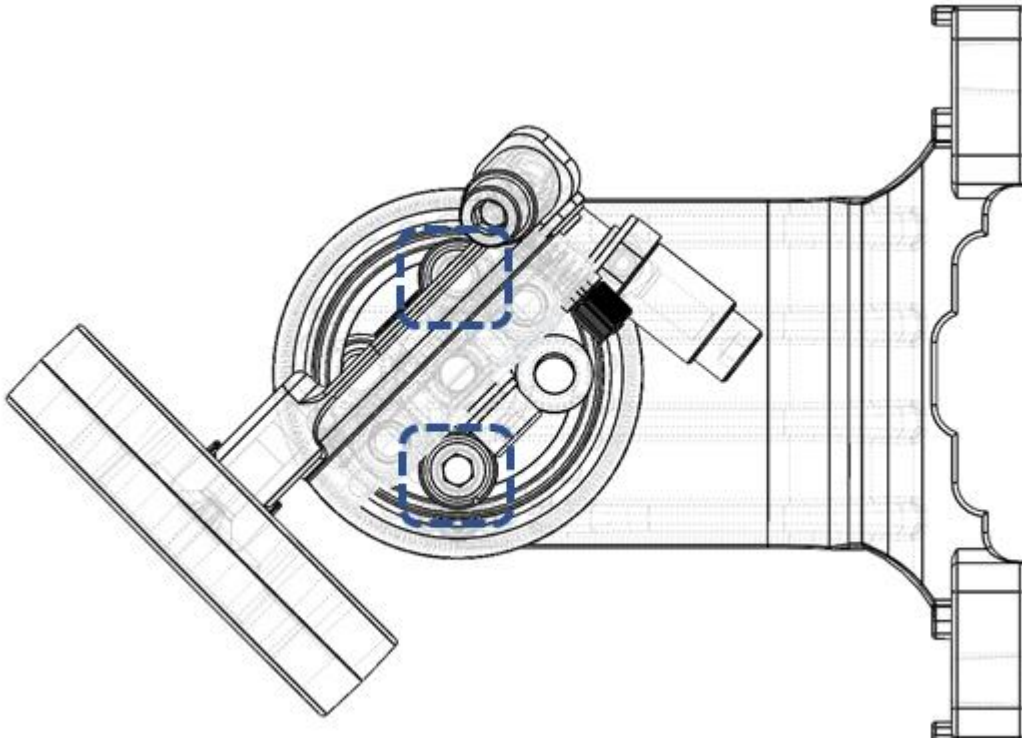
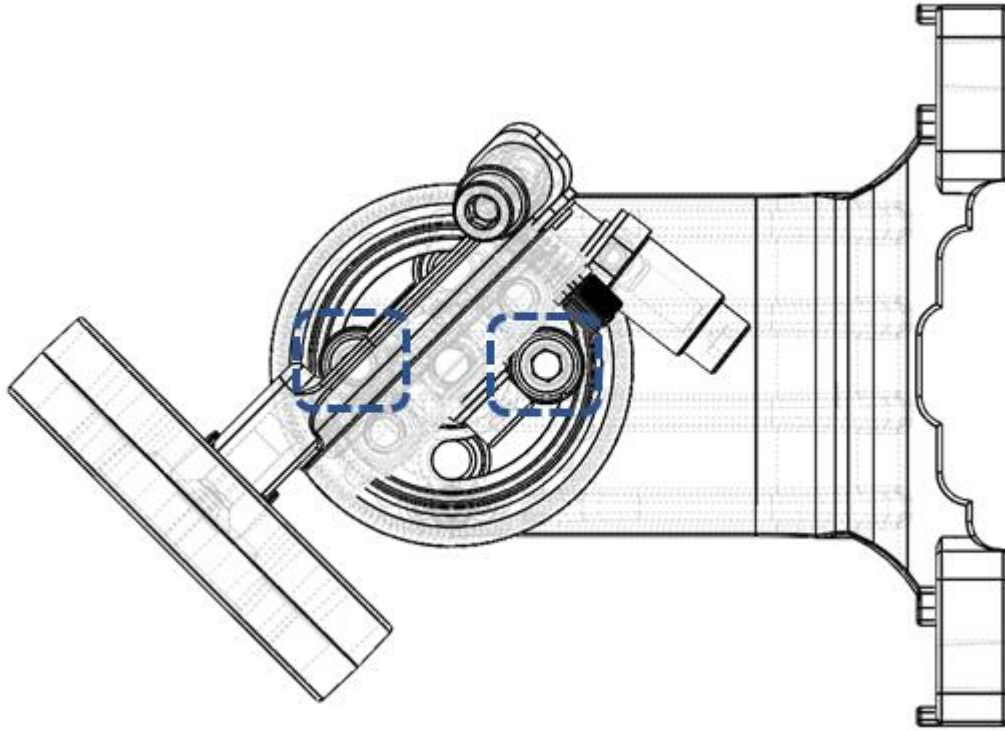

Figure 37: Azimuth Screws - Top View (Azimuth 45° to the Right)
Figure 39: Azimuth Screws in New Placement - Top View (Azimuth 45° to the Right)
3. Insert the Azimuth Screws in the holes opposite their previous locations. For example, if you are adjusting the azimuth to the left, move the Azimuth Screw to the left of the device from the left hole to the right hole and move the Azimuth Screw to the right of the device from the right hole to the left hole, as shown in **Figure 37** and **Figure 39**. This will place the azimuth at an angle of 45° to the left or 45° to the right.